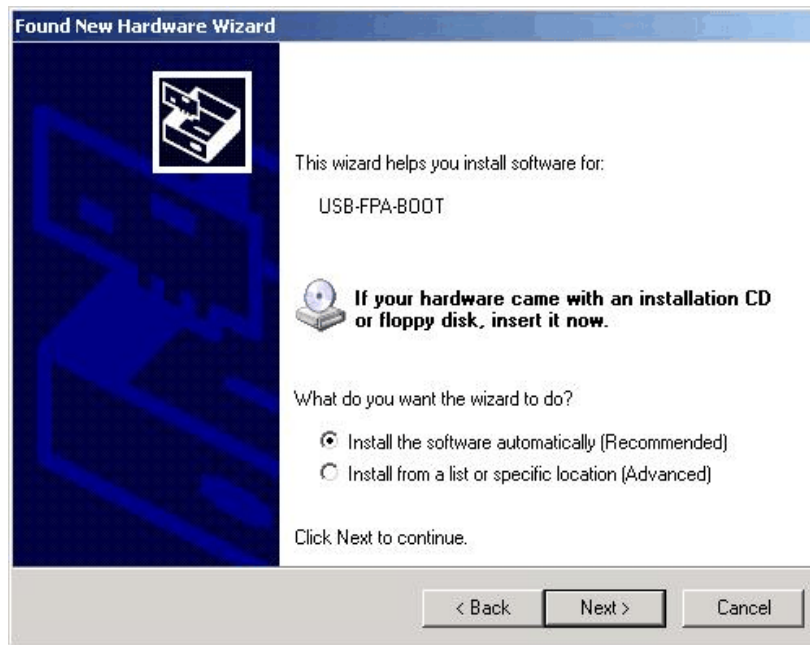

Figure 3.1-3
2. In the second Wizard dialog screen (see Figure 3.1-3) select the “**Instal the software automatically (Recommend)**” and press NEXT button.